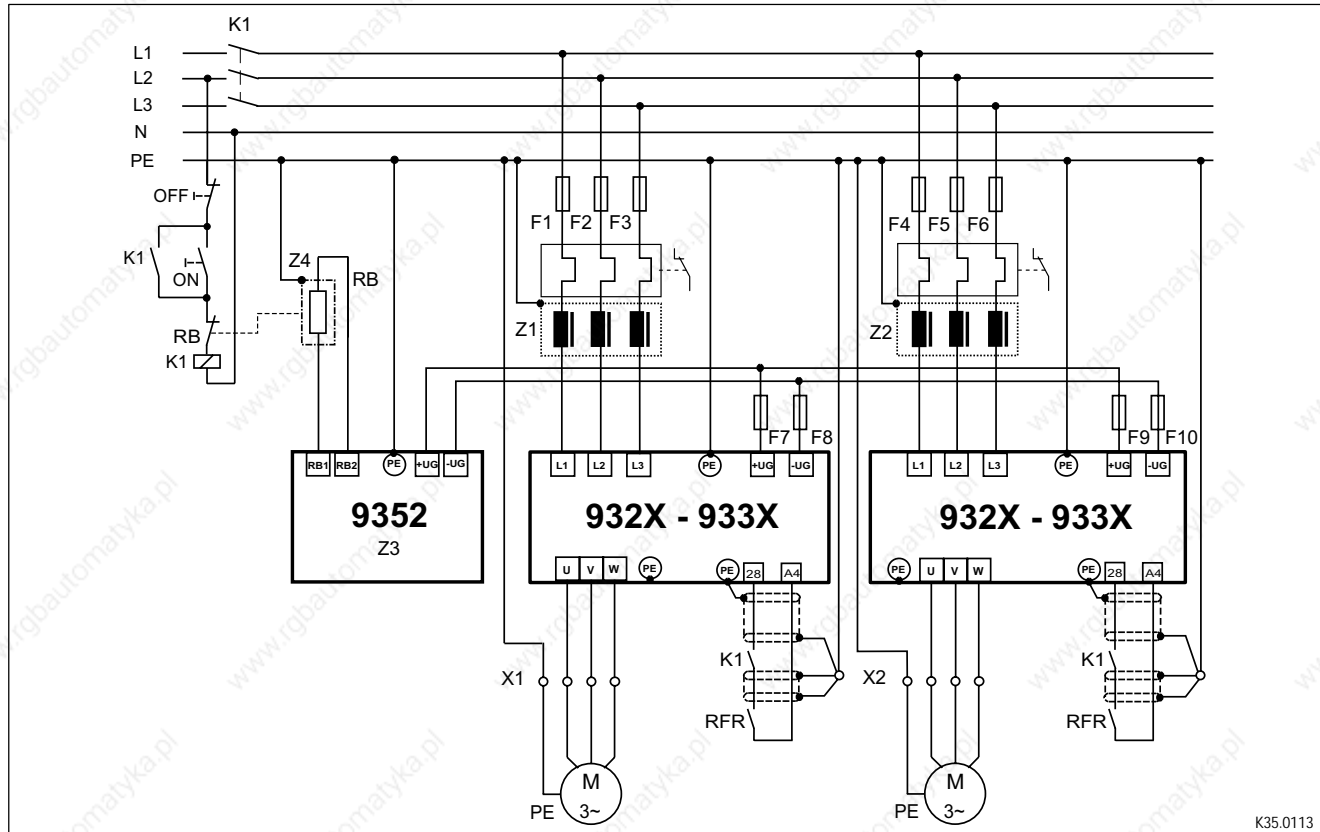

Fig. 4-9 Decentralized supply for DC-bus connection of several drives
- Fig. 4-9, "Decentralized supply for DC-bus connection of several drives". (4-18)